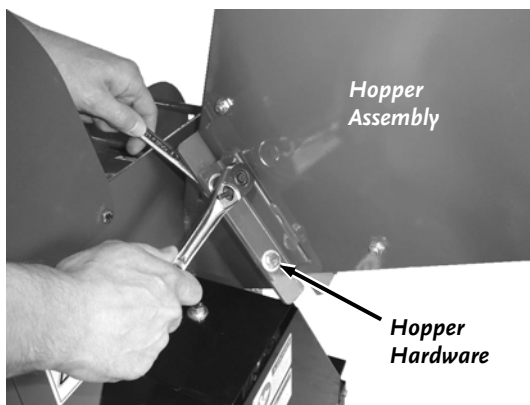

Figure 9
1. Attach the Hopper Assembly to the Chipper with six 5/16"-18 x 1" Bolts, twelve Flat Washers (one Washer on Bolt side and one on Lock Nut side) and six Nylon Lock Nuts (**Figure 9**).